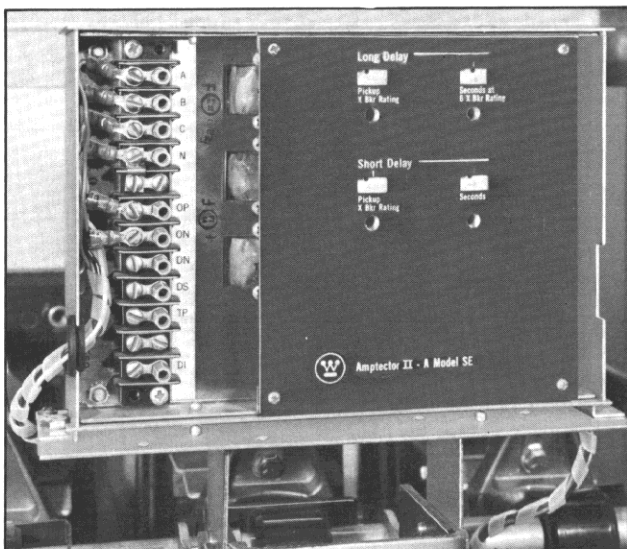

Fig. 30 Amptector Mounted on Bracket DB-75/100
6. Mount Amptector on the steel plate with .25-20 x .50 bolts, nuts and washers, Fig. 30.